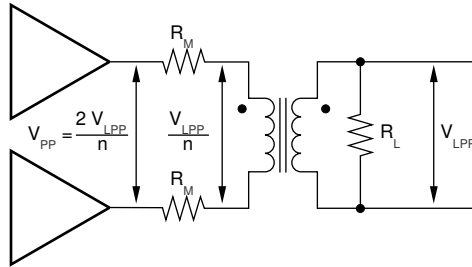
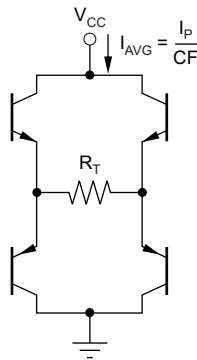

Figure 8-5. Driver Peak Output Voltage
Figure 8-8. Output Stage Power Model
- R_M is as defined in Equation 7 and Figure 8-5
The total internal power dissipation for the THS6212 in a line-driver application is the sum of the quiescent power and the output stage power. The THS6212 holds a relatively constant quiescent current versus supply voltage—giving a power contribution that is simply the quiescent current times the supply voltage used (the supply voltage is greater than the solution given in Equation 15). The total output stage power can be computed with reference to Figure 8-8.
The two output stages used to drive the load of Figure 8-5 are shown as an H-Bridge in Figure 8-8. The average current drawn from the supply into this H-Bridge and load is the peak current in the load given by Equation 13 divided by the crest factor (CF) for the signal modulation. This total power from the supply is then reduced by the power in R_T, leaving the power dissipated internal to the drivers in the four output stage transistors. That power is simply the target line power used in Equation 8 plus the power lost in the matching elements (R_M). In the following examples, a perfect match is targeted giving the same power in the matching elements as in the load. The output stage power is then set by Equation 17.